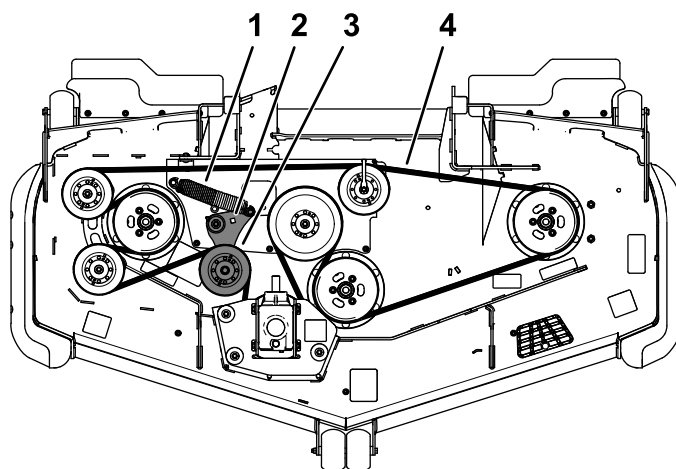
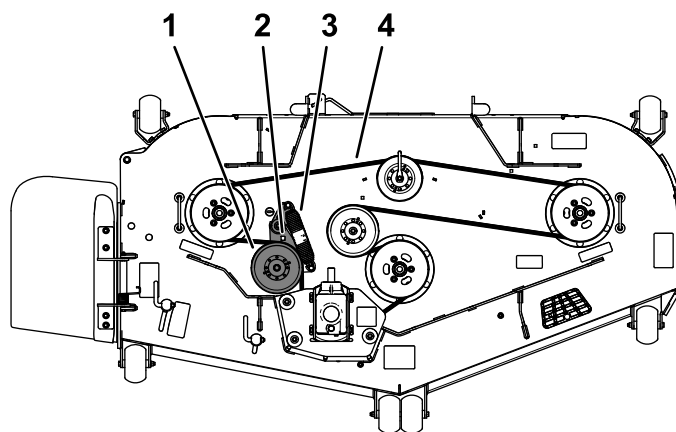

Figure 62
Figure 63
5. Use a ratchet in the square hole in the idler arm to remove tension on the idler spring (Figure 62 or Figure 63).
7. Install the new belt around the mower pulleys (Figure 62 or Figure 63).
8. Ensure that the spring ends are seated in the anchor grooves, and using the ratchet in the square hole, install the belt around the idler pulley (Figure 62 or Figure 63).